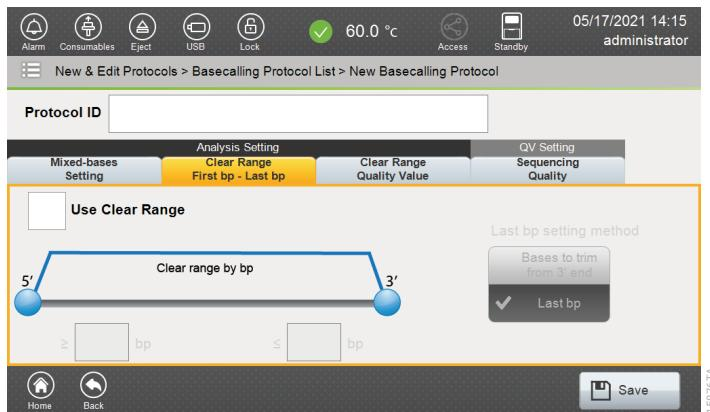

Figure 122. 'Clear Range First bp–Last bp' tab.
4. Select the 'Clear Range First bp–Last bp' tab to reveal the options for setting the first and last base to consider for analysis (Figure 122).